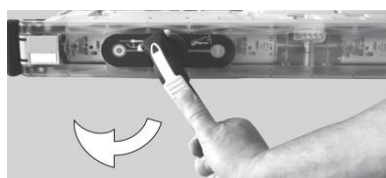

Fig. 14 / Fig: 14
- Turn the lever clockwise about 180° until stop (Fig: 14/15).